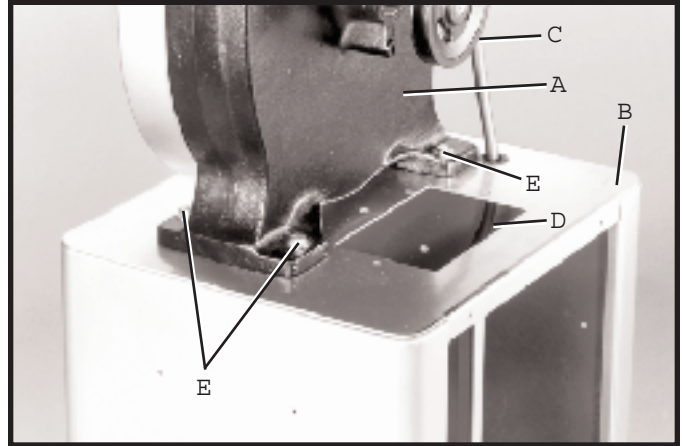

Fig. 15
1. Carefully place the band saw (A) Fig. 15, onto the band saw stand (B). NOTE: Position the band saw so the pulley (C) is over the opening (D) in the stand.
2. Align the four holes in the base of the band saw with the four mounting holes in the top of the stand and fasten the band saw to the stand with four 5/16-18 x 1-3/4 hex head screws, three of which are shown at (E) Fig. 15, with flat washers and flange nuts.